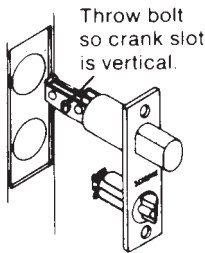
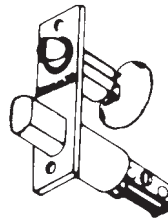

Figure 13.61 Insert latch unit.
Figure 13.62 Rotate deadlatch.
9. With the deadbolt thrown and the crank slot in the vertical position, insert the latch unit and secure it with the screws provided (Fig. 13.61). The deadlatch can be rotated to match the door hand (Fig. 13.62). The beveled edge of the deadlatch should contact the striker as the door swings shut.